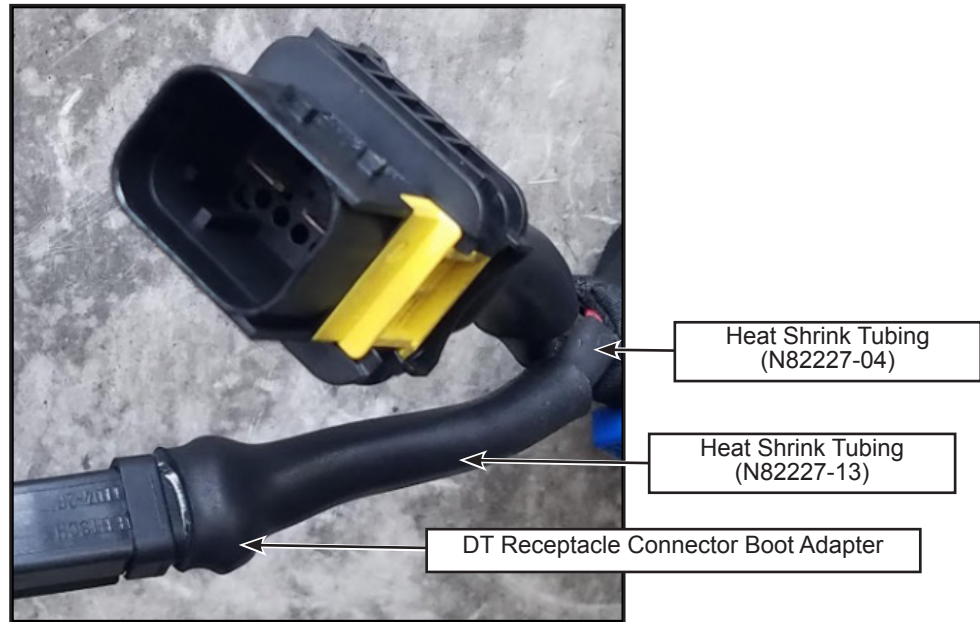

Figure 19 - Heat Shrink Tubing Installation on DT Receptacle Connector Wiring at Harness Side
- 1.34. Using a heat gun, apply the large heat shrink tubing PN N82227-04 starting from the boot adapter of DT receptacle connector finishing directly over the smaller heat shrink tube previously installed on the paired control wires (see figure 19). Make sure to fill any gap with the inner adhesive liner glue (do not apply heat shrink tubing over tape or loom).